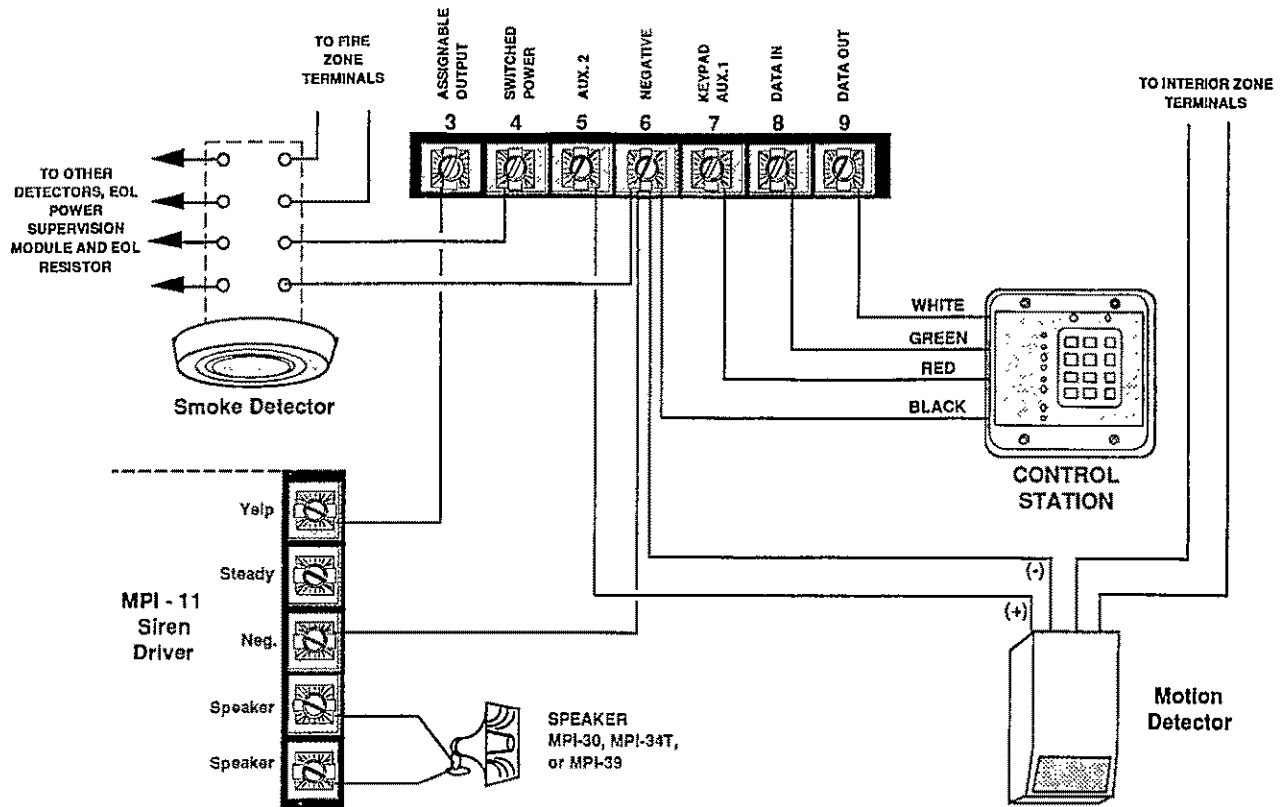

FIGURE 10 +12VDC CONTROL OUTPUTS †
Provides (+)12volts DC power for smoke detectors (see ff note on page i) and other devices that require momentary power interruption to reset. The power from this output can be momentarily interrupted to reset smoke detectors by pressing the "7" key and holding for three seconds. Each time the control does an automatic 24 hour test, power from this output will be removed for 5 seconds. For this reason, Switched Power should not be used to power any device that will trigger an alarm upon interruption and restoration of power. This output is fused at 2.5 amperes by fuse F2 which is also used to fuse the Keypad Power/Auxiliary 1 output (terminal 7). Do not exceed the current drain limitations as indicated in Table 10, page 42. See Figure 10 for a hook-up example.
Used to provide (+)12 volts DC power for motion detectors and other devices requiring uninterruptable power. This output is protected by a 2.5 ampere fuse (F1) which is also used to fuse the Assignable Output (terminal 3). Do not exceed the current drain limitations as indicated in Table 10, page 42. See Figure 10 for a hook-up example.
Used to supply (+)12 volts DC power for control stations. This output is fused at 2.5 amperes by fuse F2 which is also used to fuse the Switched Power output (terminal 4). This output may also be used to supply auxiliary power for motion detectors and other devices provided the total current draw does not exceed the limits as set by Table 10, page 42. See Figure 10 for a hook-up example.
Assignable through programming (Function 256) to provide a (+) 12volt DC output upon any or all designated alarm conditions. If this output is not used for output upon alarms, it may be assigned to any ONE of the following other conditions: Switched Power reset (key 7)/24 hour automatic tests, access activation, supervisory/trouble conditions, or entrance pre-alarms and chime (key 6). If used to provide output upon alarms, it then must be defined as to the type of alarm condition(s) that will activate this output. This may include Burglar, Auxiliary "A", Auxiliary "B", or Auxiliary "C" alarms (or any combination) as selected through programming Functions 257-260. Sirens, bells, or other output devices may be connected directly to the Assignable Output (terminal 3) of the control provided they do not exceed the current drain limitations as indicated in Table 10, page 42. It may be desired to use this output for non-alarm conditions when using the optional Z729 Siren Driver/Output Expander. This output is protected by a 2.5 ampere fuse (F1) which is also used to fuse the Auxiliary 2 output (terminal 5). See Figure 10, page 10 for a hook-up example.